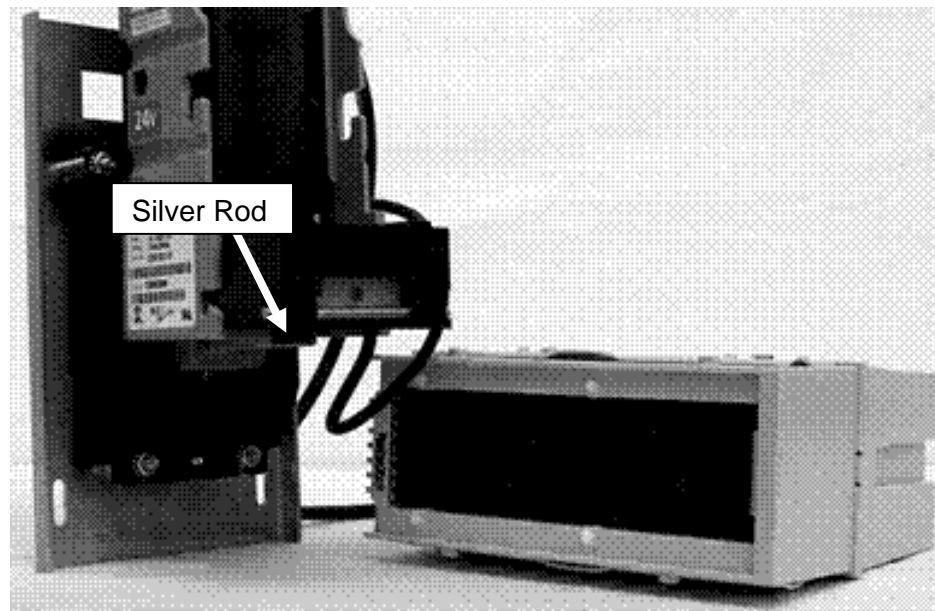

Figure 10. Mars with Lower Housing
2. Reach under the bottom of the validator and locate a silver rod in the area below where the status LED is located. (See Figure 10)